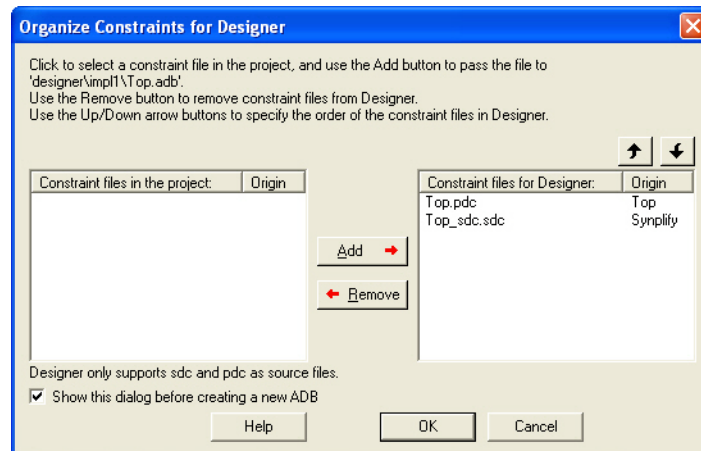

Figure 1-31 • Organize Constraints Dialog Box
1. Click the **Place&Route Designer** button in the Project Manager. The Organize Constraints dialog box appears (Figure 1-31).